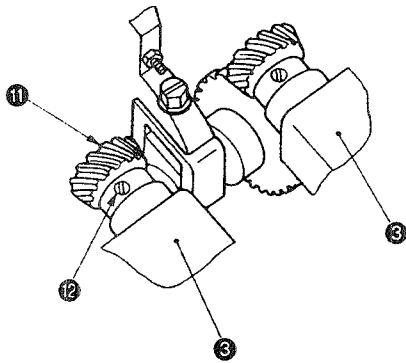

Fig. 26
1. Loosen three screws ⑫ in hook driving shaft gear ⑪ in Fig. 26.
2. Align the blade point of the hook with the center of the needle, and tighten screws ⑫.